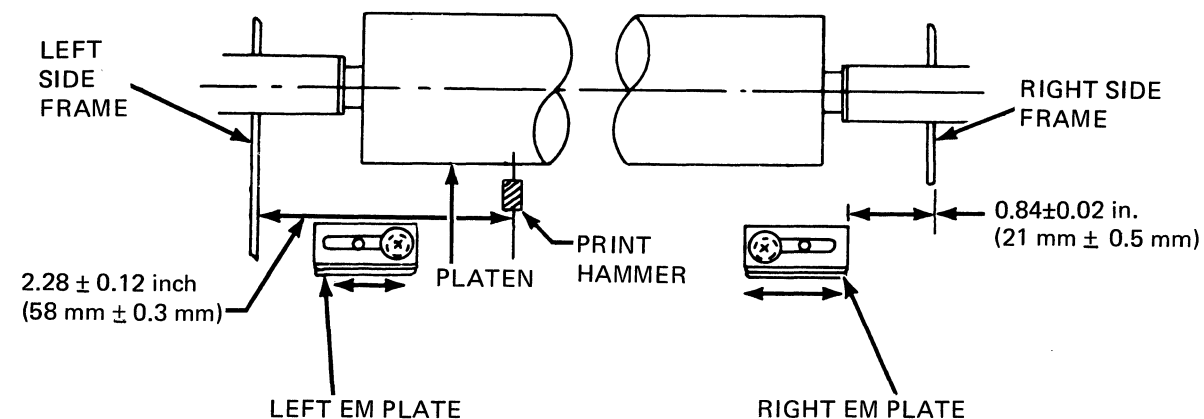

Figure 5-12 First Print Position and Right EM Plate Adjustment
- a. The first print position (the extreme left position) should be 2.28 ± 0.012 inches (58 ± 0.3 mm) from the left side frame as shown in Figure 5-12. To adjust to this position, slide the left side EM plate on the base frame in the required direction (as indicated by the arrows).
- a. Position the right side EM plate 0.84 ± 0.02 inch (21 ± 0.5 mm) from the inside of the right side frame as shown in Figure 5-12.